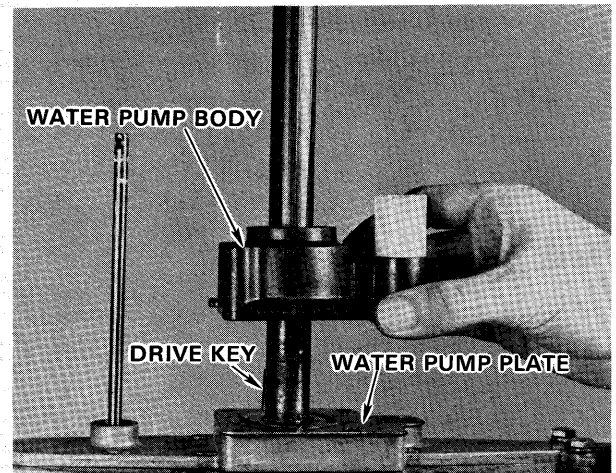

Figure 4—Removing Water Pump
- C. Remove four (4) screws securing water pump body to gear housing and lift water pump body assembly from gear housing. See figure 4.